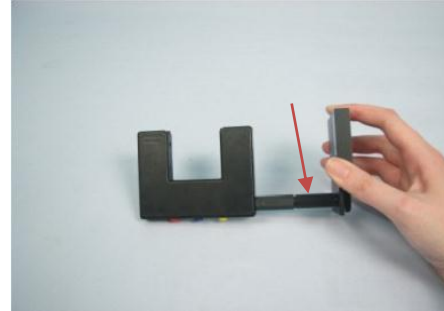

Figure 2.5: Spacing bolts connection.
- 2- Connect two spacing bolts and the foot plates onto the light barriers as in Figure 2.5, so that these can stand next to the track, and so that the plate on the car goes through the light barrier.